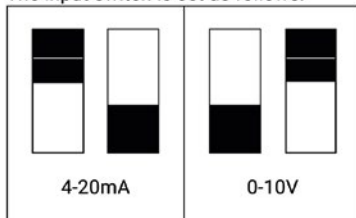

Figure 1
- (2) Channel selector: You turn the switch until it is on the channel you want to set.
- (3) Input selector: Here you switch between 0–10 V and 4–20 mA signal. (see Fig 1)
The setting, how to adjust the switches to the desired result can be seen in figure 1